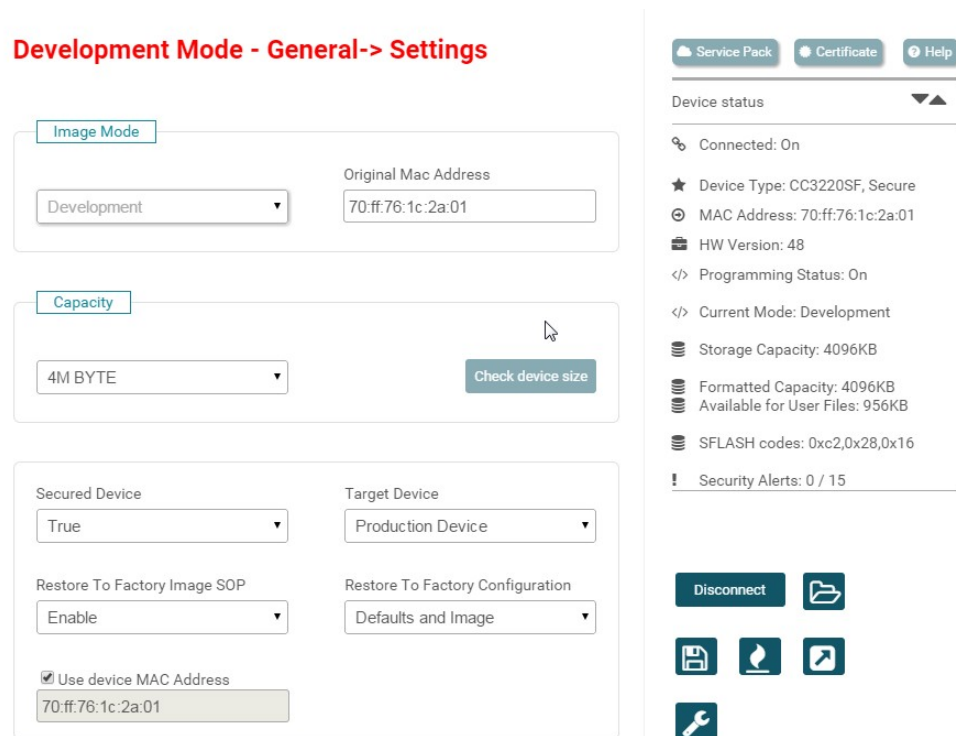

Figure 38. UniFlash General Settings
5. Ensure the CC3220 LaunchPad is connected and click the Connect button. Users can see the device information of the connected device with their device MAC address (see Figure 38). This is important because the development mode is matched to the device MAC address.